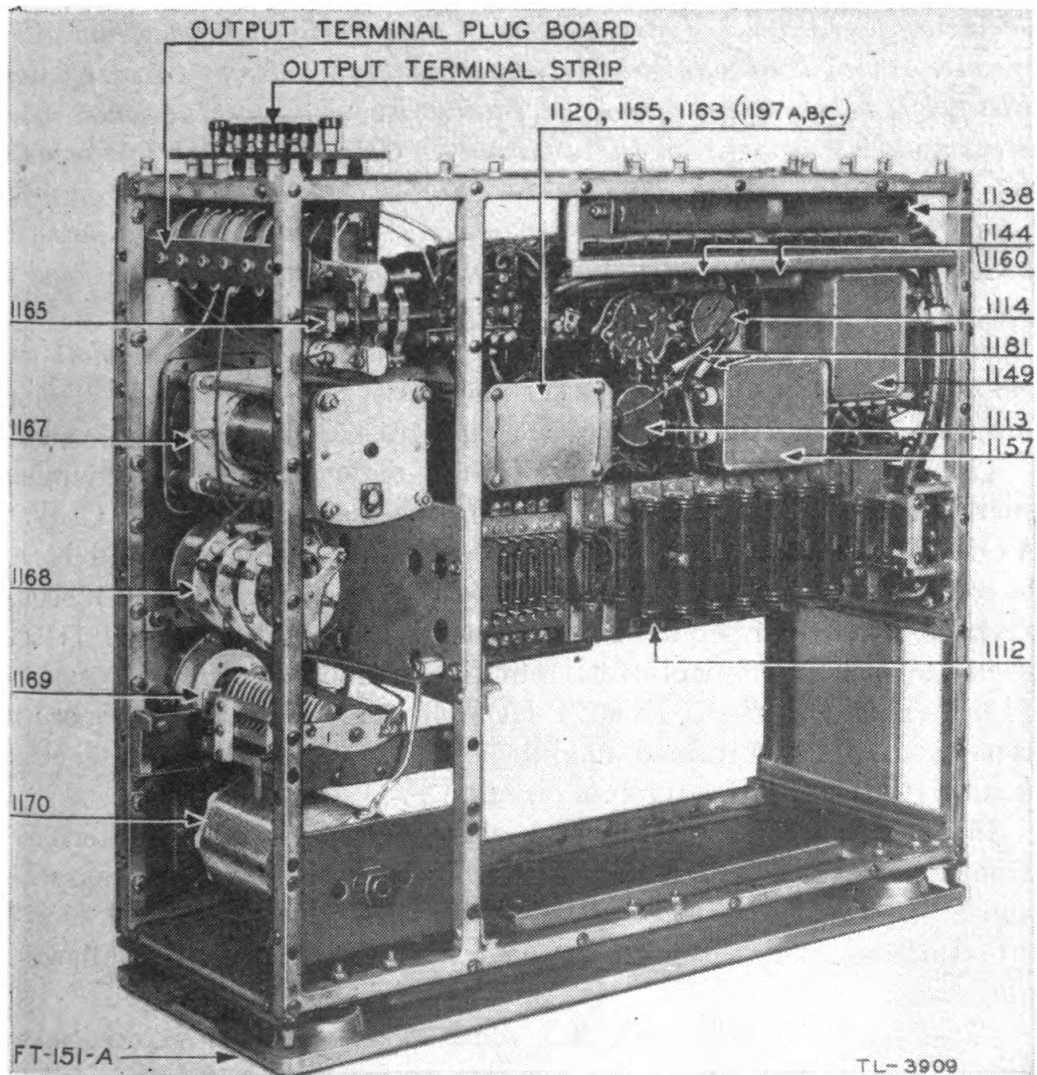

FIGURE 21.—Radio transmitter BC-191-(*), with panels and transmitter tuning unit removed to show location of parts—rear view.
(1) Clean accumulated dust and dirt from all units, using an air hose or bellows, paying particular attention to the loading coil 1170 in antenna compartment of the radio transmitter. (See fig. 21.) Inspect the rotating coil 1167 in this compartment, and clean the winding, contact roller, and roller shaft thoroughly with carbon tetrachloride and a clean cloth.
(2) Make certain that all wiring is in place, that all mounting brackets and supports are rigidly fastened, and that all nuts and machine screws are supplied with lock washers and are tight.
(3) Determine that cords are not damaged and that all ground connections are secure.
(4) Inspect plugs for proper fit and plug sockets for compressed pin springs. Pin springs which have taken a permanent set can usually be restored by a very light hammer blow at the end of the pin.
(5) Make certain that all cartridge fuses are held tightly in their clips. A loosely held fuse should be removed and the clips bent by